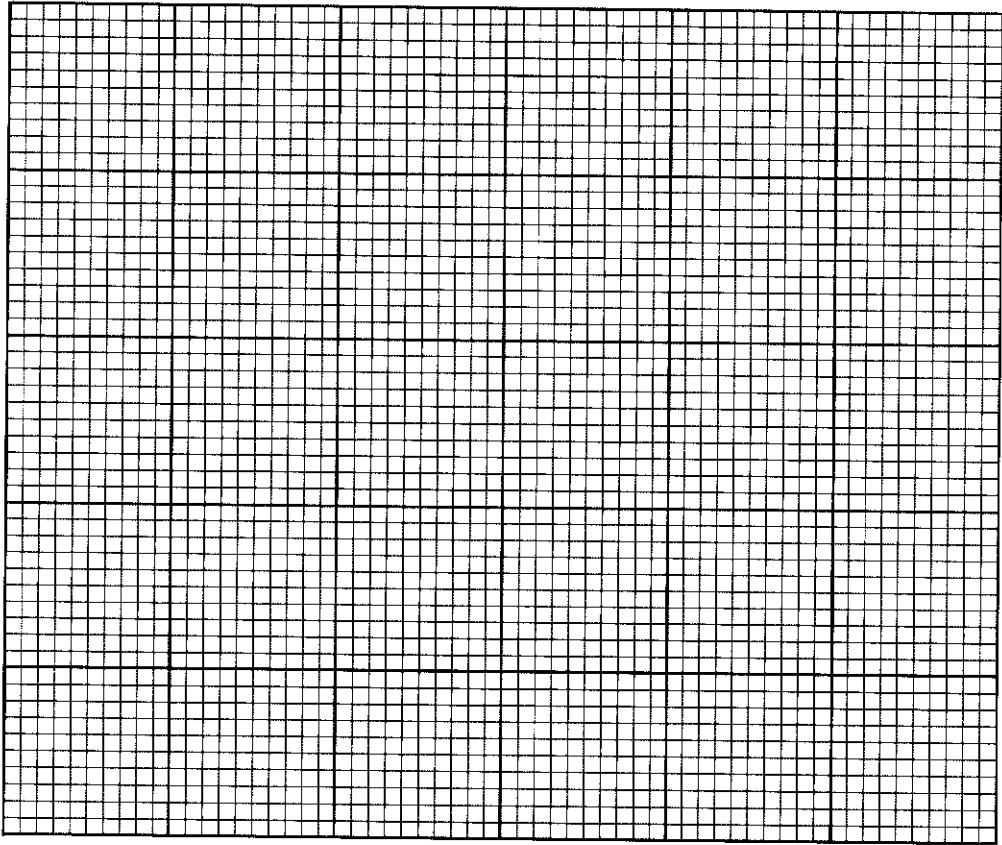

Fig. 3.4
- (i) On Fig. 3.4, plot a graph of the data shown in Table 3.1.